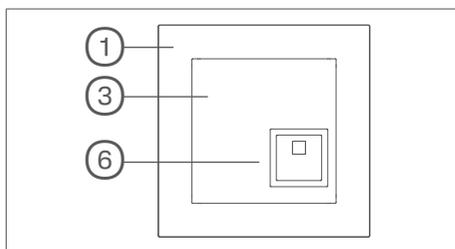

Figure 5: Shut-off push-button cover with frame
- When you have arrived at the location of the emergency, press the green shut-off button (Figure 5, 6).